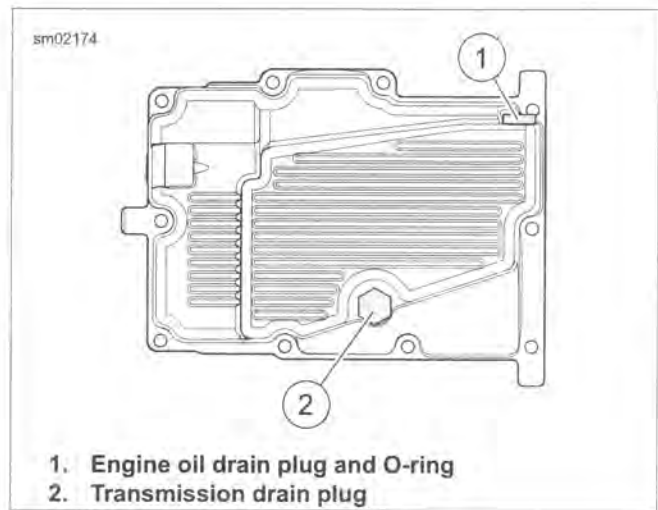

Figure 1-18. Oil Pan
2. See Figure 1-18. Remove transmission drain plug. Drain transmission.